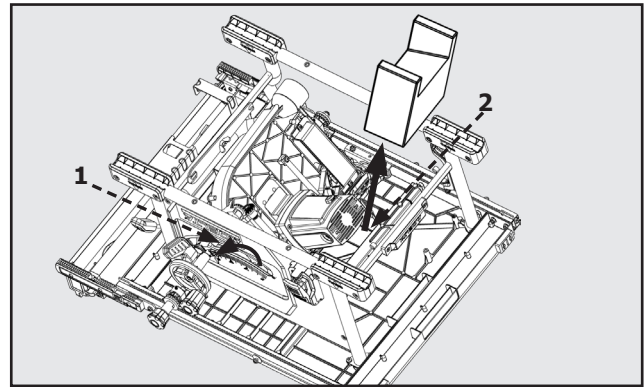

Figure 10
9. Unlock the Bevel Lock and rotate the Motor Assembly enough to remove the Shipping Foam protecting the Saw Motor see Figure 10.